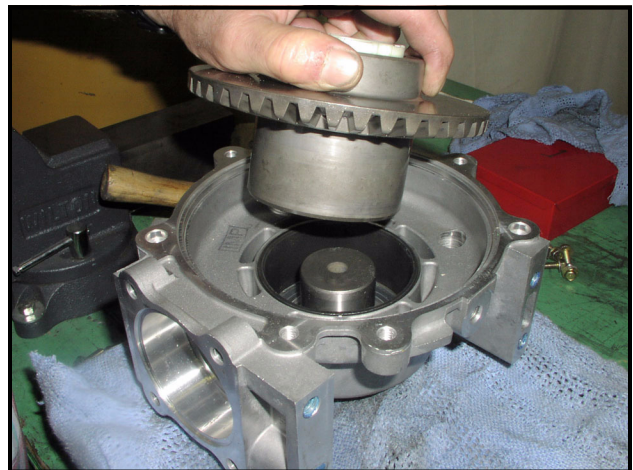

Figure 9-45 Install Ring Gear and Hub
6. Install the ring gear hub with clutch and roller bearing assembly into the gearcase and down around the female output hub (**Figure 9-45, Page 9-15**).